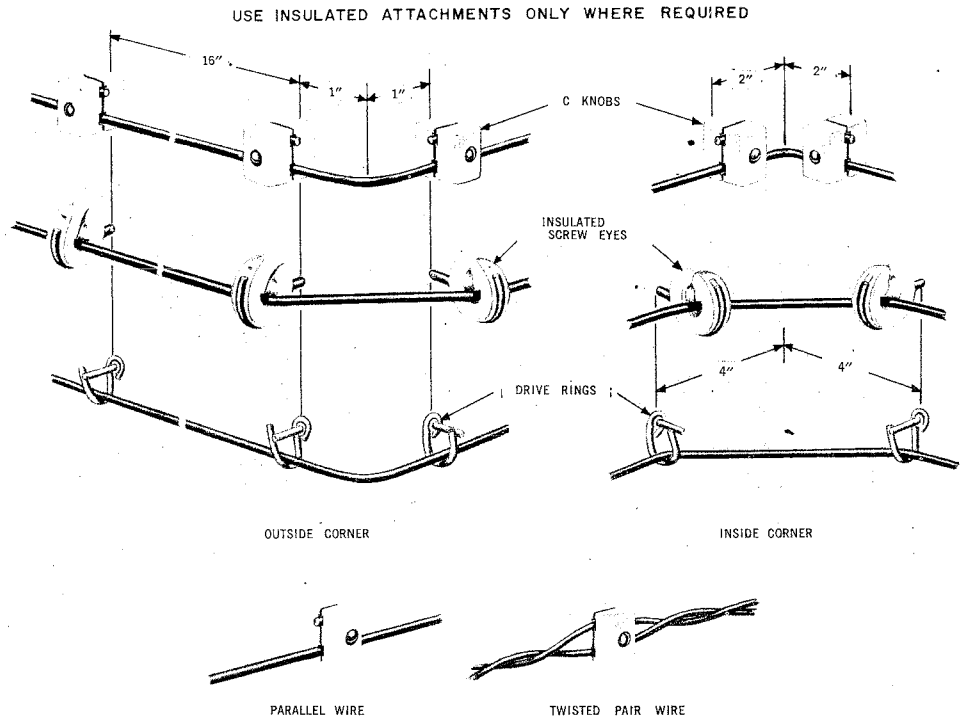

Fig. 15 — Fastening Drop and Block Wire Inside of Buildings
18.01 Typical drop and block wire runs within a building, some of the attachments to be used, and the spacing of attachments are shown in Fig. 15.